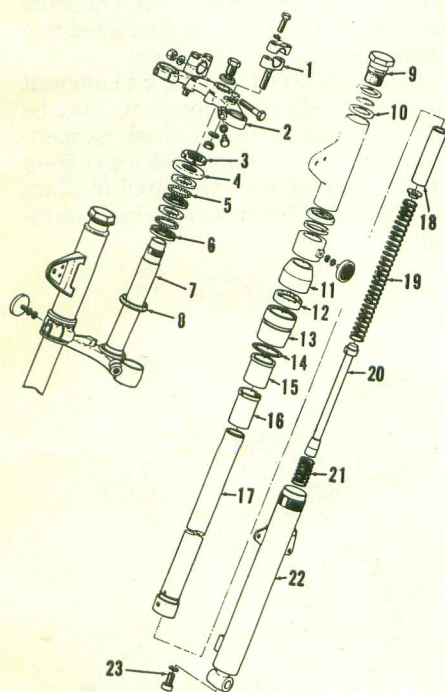

Fig. Y10-9—Exploded view of typical front end assembly used on 125 and 175cc models. HT1 units are similar.
SUSPENSION. Front suspension units use SAE 10W/30 motor oil. The HT1 and HT1-B require 140cc of fluid in each fork tube and all other units require 152cc of fluid in each fork tube. Forks may be disassembled by removing the outer tube nut (13—Fig. Y10-9) and set bolt (23). HT-1 and HT1-B forks have no bolt (23).